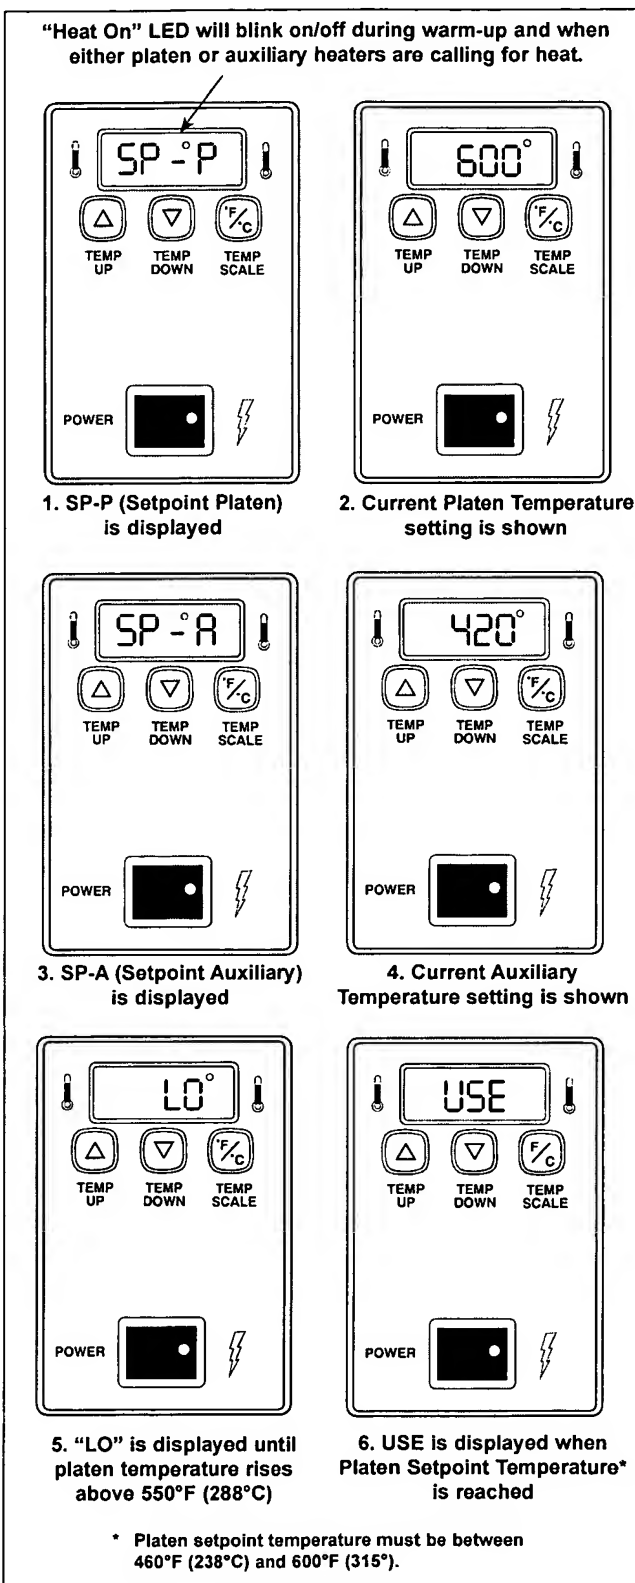

FIGURE 6. TEMPERATURE POWER UP SEQUENCE
1. Turn rocker switch (power on/off) to ON and wait for temperature display to finish the power up sequence (Figure 6).
1. Turn rocker switch on and wait for temperature display to finish the power up sequence (Figure 6).